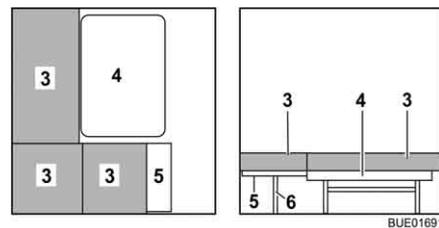

Fig. 111 During conversion
- Unlatch and fold up the bedding box extension (Fig. 111,5).
- Place support (Fig. 111,6) into the holder on the bedding box extension.